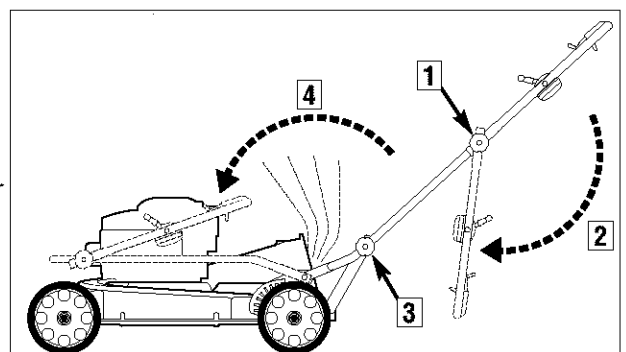
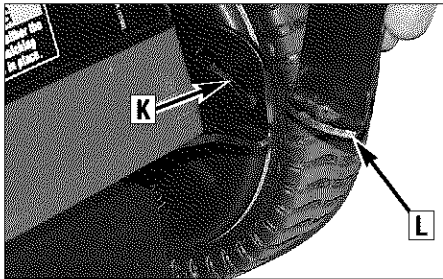

Figure 5-16: Folding the mower for storage.
Figure 5-17: Dislodging handlebar struts.
1. Loosen the top two handlebar adjustment knobs (1, Figure 5-16) while supporting the assembly with one hand.
2. Fold the top section of the assembly backward (2, Figure 5-16). Guide the cables carefully while folding. Be sure not to bend, pinch, or stretch the cables.
3. Still supporting the handlebar assembly with one hand, loosen the two lower handlebar adjustment knobs (3, Figure 5-16) just enough to dislodge both handlebar struts (L, Figure 5-17) from the slots (K) in the wheel bracket assembly.
4. Carefully fold the bottom section of the handlebar assembly forward over the engine (4, Figure 5-16). Guide the cables carefully while folding. Be sure not to bend, pinch, or stretch the cables; also, keep cables away from muffler — the outer cable covering can be burned if the engine is still hot.